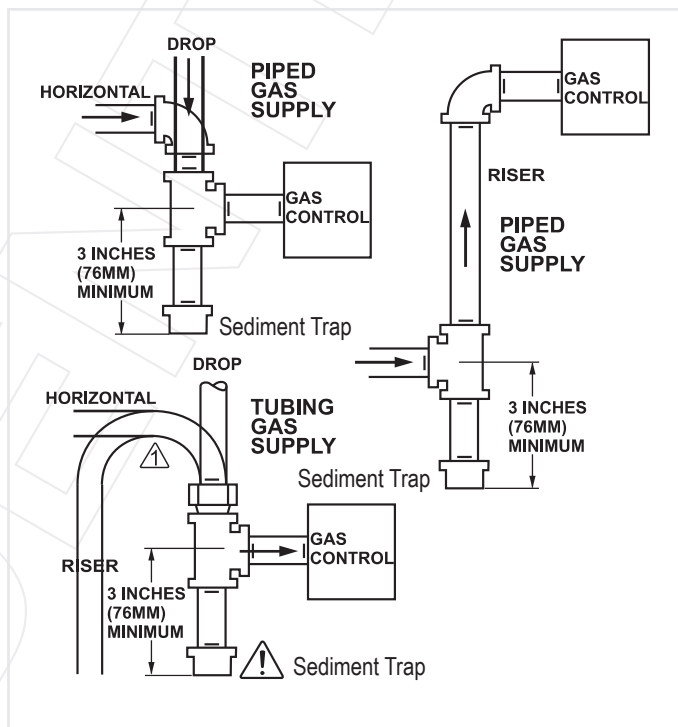

Figure 9: Sediment Trap (where required)
2. Install the sediment trap (where required) in the gas supply line to prevent contamination of the gas valve (see figure 9).